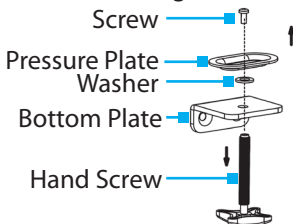

Figure 2
2. Remove the **Screw** from the **Pressure Plate**, using a **Phillips Head Screwdriver**. (Figure 2)